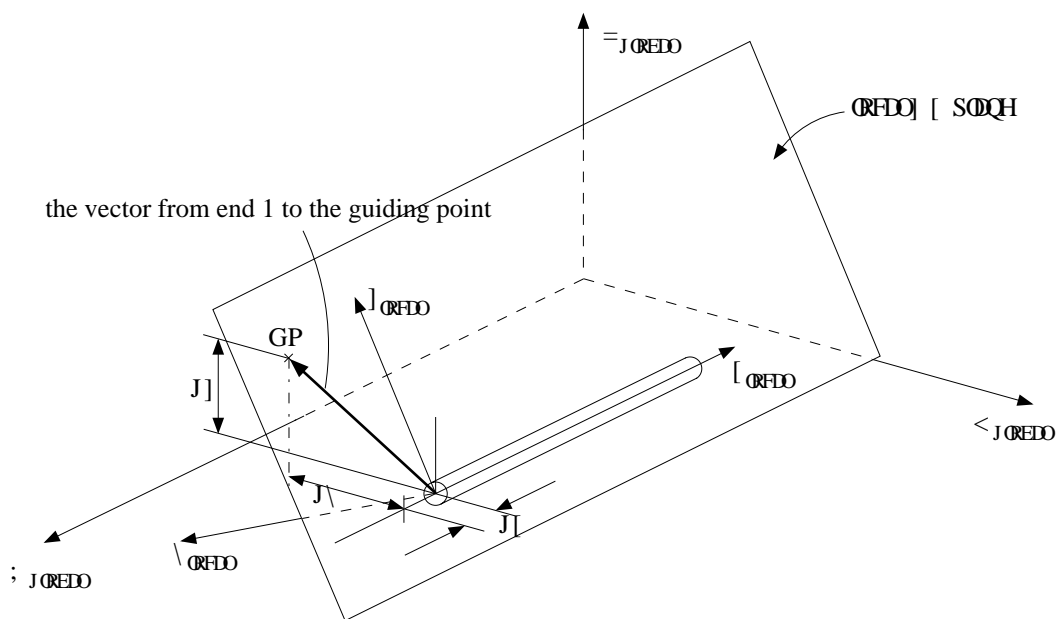

Figure 5.19 Local coordinate system defined by a guiding point defining the local z-x-plane
- A guiding point given in terms of coordinates (option GUIDING-POINT) or as a point infinitely far away along any of the global axes, either in positive or negative direction. This guiding point determines the orientation of the local y-x- or z-x-plane so that the guiding point is located on the positive local y- or z-side, respectively, of the element; see Figure 5.19. This is valid for the subsequently selected elements.
gx gy gz	The vector pointing from end 1 of the element to the guiding point. The vector is given in the global coordinate system. See Figure 5.19.
Figure 5.19 shows the local coordinate system defined by a guiding point defining the local z-x-plane. The local y-axis is normal to the plane defined by the element axis and the guiding point.